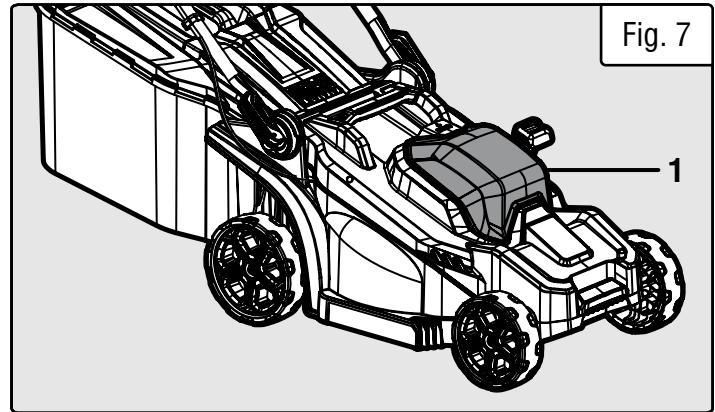

Fig. 7
1. Install the battery into the battery housing (Fig. 7 - 1) on top of the lawn mower.